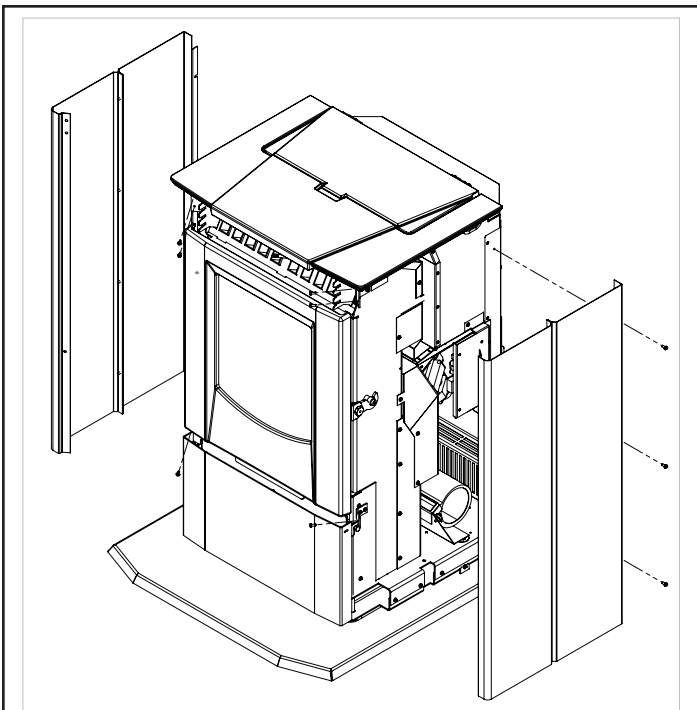

Figure 5: Cabinet Side Install
2. Next install the Cabinet Sides. There are six screws for mounting each cabinet side. Start by installing screws at front top of the panels, Do not fully tighten screws. Now get the back top screws started. Now install the rest of the screws and tighten them down. See Figure 5.